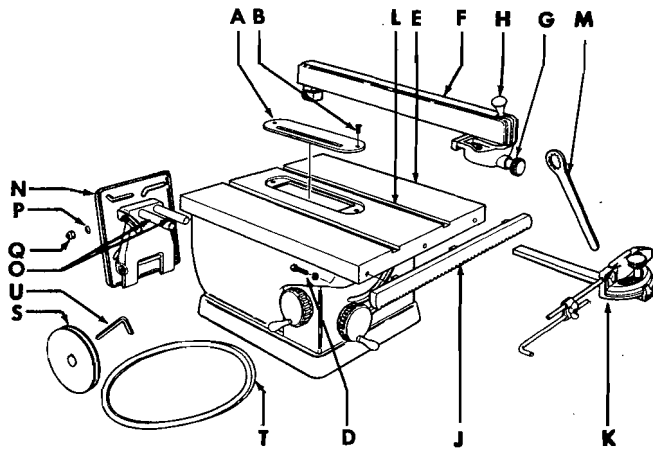
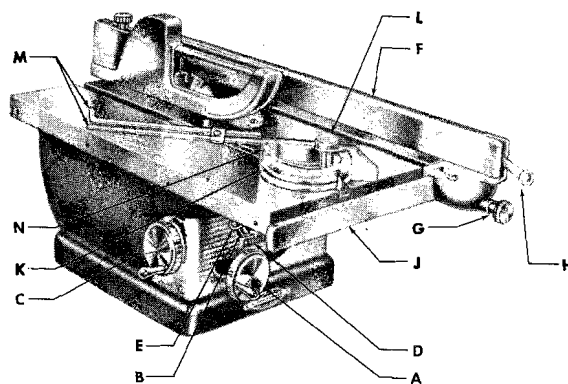

Figure 1
Figure 2
Your saw is shipped with the following loose parts wrapped separately and packed in same crate with the saw (see figure 1): Rip fence rack (J), three screws and lock washers (D), rip fence (F), miter gage (K), motor mount (N), motor pulley (S), V-belt (T), arbor nut wrench (M), and Allen wrench (U). Thoroughly clean the saw and these loose parts with a dry cloth. Remove the rust-preventive coating on the saw table by wiping it off with a cloth soaked in kerosene.
**CHECK ARBOR NUT** — Remove two screws (B, fig. 1) and lift out the insert (A, fig. 1). Check tightness of saw arbor nut (part 6362, fig. 5), using wrench (M, fig. 1). Replace insert and screws.
**ALIGN SAW BLADE WITH TABLE GROOVES** — Using elevation hand wheel (A, fig. 2), set saw blade for deepest cut. Make pencil mark on tooth that is just above table top at front of blade. Measure distance from this tooth point to right-hand table groove (L, fig. 1). Rotate blade by hand to place this same tooth just above table top at rear — then again measure distance from tooth point to right-hand groove. The two measurements must be exactly equal. If not, loosen the three screws (part S-860, fig. 4) in each trunnion which secure the table trunnion (part 13, fig. 4) to the table. Shift the two trunnions until the two measurements are equal, then retighten the screws. Again check measurement.
**INSTALL RIP FENCE** — Secure the rack (J, fig. 1) to the front skirt of the saw table, using the three screws and lock washers (D, fig. 1). Be sure to position rack with gear teeth facing downward — and with top edge of rack parallel with the top of table. Pull the rip fence knob (G, fig. 1) out to permit the guide of the rip fence (F, fig. 1) to slide over rack (J, fig. 1) — then place the rip fence on the saw table as shown in figure 2. A slight pressure must be exerted on the rip fence to cause it to seat properly on the rack. This is necessary because there are two bar alignment springs which act on the inner lip of the rack to hold the fence in continuous alignment. Slide fence along rack, noting clearance between fence and table top. If any part of the fence (other than the sliding pad at the rear) drags on the table top, or if the clearance between fence and table varies appreciably as fence is moved, rack (J, fig. 1) must then be readjusted. This can be done by again loosening screws (D, fig. 1) to reposition the rack.
**ADJUSTING RIP FENCE PARALLEL TO SAW BLADE** — Place the rip fence next to the right-hand table groove (L, fig. 1) and clamp it in place by pushing down on the cam clamp lever (H, fig. 1). Fence should be perfectly parallel to the groove. If not, loosen the four screws (parts S-1264 and S-1265, fig. 4) which secure the guide to the fence. Align fence with groove — then retighten screws.
**MOUNTING THE MOTOR** — Mount the motor (see Motor Specifications) to the motor mount assembly (N, fig. 1) — then mount the motor support assembly to the saw by sliding the two pins (O, fig. 1) into the mounting holes at the rear of the cradle. Place pulley (S, fig. 1) on the motor shaft, line it up with the pulley on the saw arbor, then tighten the pulley set screws. Install V-belt (T, fig. 1) over pulleys and adjust the belt tension by
**PLACEMENT OF MITER GAGE** — The miter gage assembly (K, fig. 1) can be used in either one of the two table grooves.
The following controls should be tested until the operator is thoroughly familiar with their uses. See figure 2.
**ADJUSTING TILT GAGE** — Using an accurate square, set saw blade at right angles to table top. Then adjust the pointer on the tilt gage (D, fig. 2) to "0".
**ADJUSTING MITER GAGE SCALE** — Using an accurate square, block the miter gage at the square position. Make a trial cut on a fairly wide board, then check this cut with the square. If cut is accurate, set the pointer on the miter gage scale (K, fig. 2) to "90".
**ADJUSTING CAM CLAMP LEVER** If clamping action of lever (H, fig. 2) is too tight or too loose, it can be adjusted by increasing or decreasing the effective length of the rip fence clamp rod (part 6409, fig. 4). This is done by readjusting the clamp rod nut (part 6407, fig. 4) on the end of the clamp rod in back of the fence. When properly adjusted, the clamping lever should lock in a horizontal position or slightly lower.
**ADJUSTING DEPTH DIAL** — The depth dial (B, fig. 2) should read "0" when saw blade is just flush with the surface of the table. This adjustment can be made by sliding the lift dial tape (part 34, fig. 5) on the dial gear (part 33, fig. 5). Adjustment will be necessary after the blade has been sharpened and the original diameter is reduced — or when a blade of a smaller diameter than 10 inches is used.